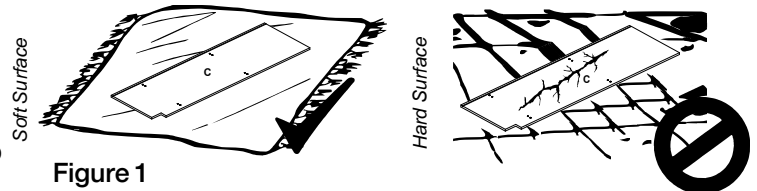

Figure 1
1. Unpack box & identify pieces on Page 2. Place side panels (C) onto a soft work surface. (Figure 1)